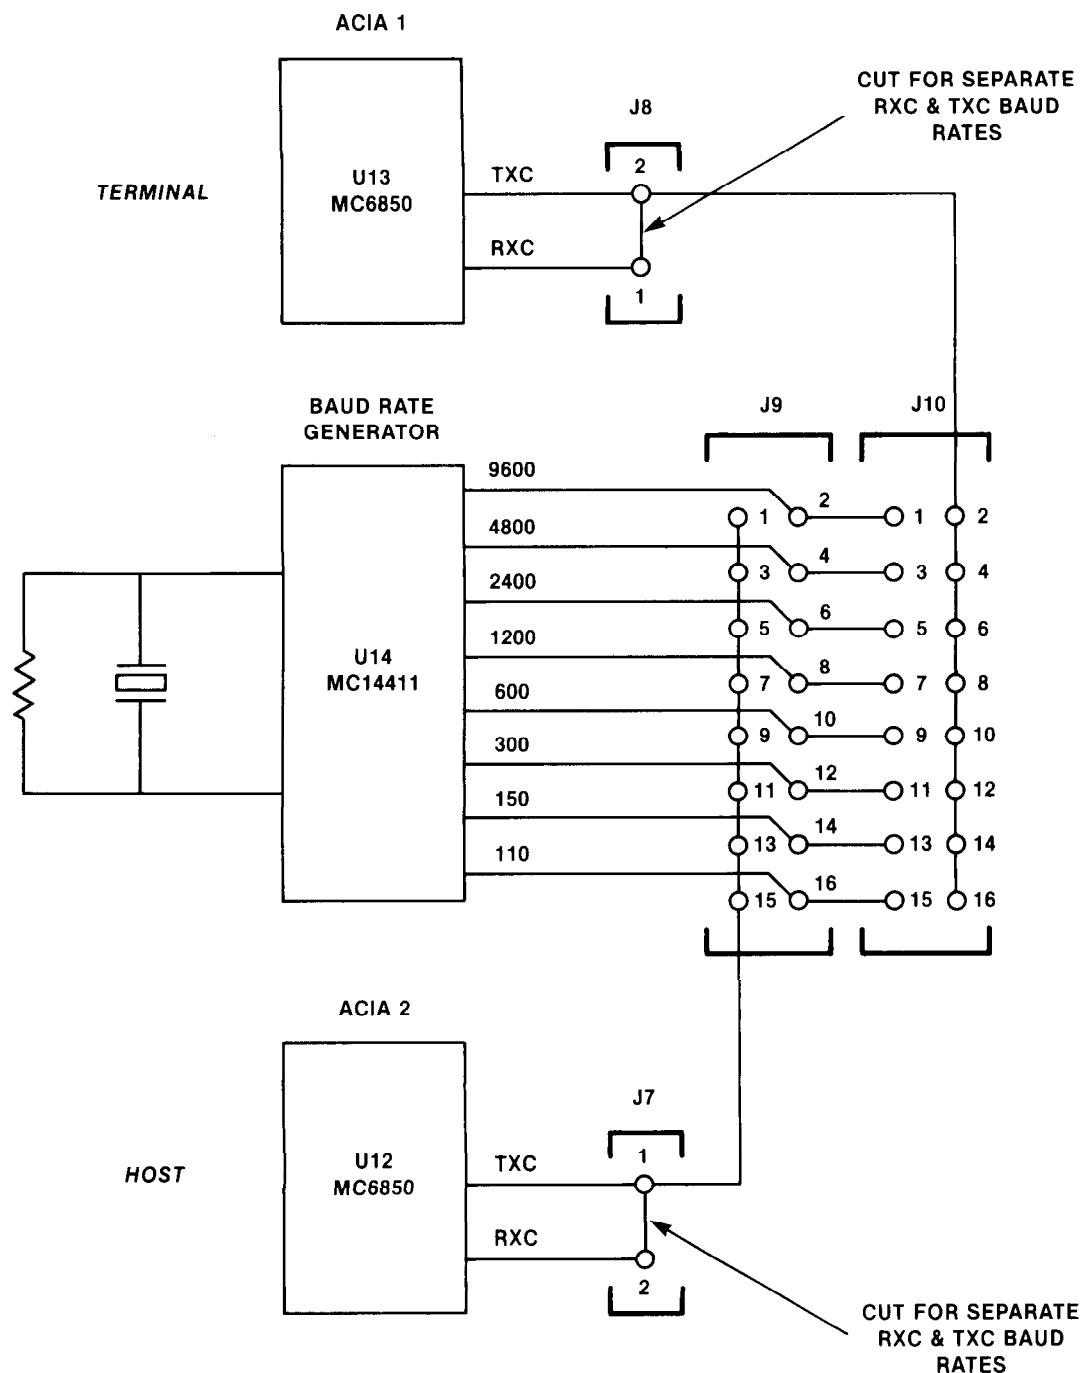

FIGURE 2-4. Interconnection Diagram for Baud Rate Selection
2.2.4.1 Normal Operation – Transmitting and Receiving at the Same Baud Rate. Normally, the terminal transmits and receives at the same baud rate. Although the terminal Port 1 can be configured to transmit and receive at different rates, the board as supplied uses a single common baud rate for the port. The host interface Port 2 has similar attributes. The interconnection circuit is shown in Figure 2-4.
2.2.4.2 Special Operation - Transmitting and Receiving at Different Baud Rates. The MEX68KECB is wired with the transmit clock (TXC) and Receive clock (RXC) of each ACIA (refer to Figure 2-4) tied together and then jumpered to the selected baud rate. To provide different baud rates, the connection between TXC and RXC must be cut and individual baud rates connected to each. Perform the following steps to select separate transmit and receive baud rates for the terminal:
2.5.2.1 Selecting Host Baud Rate. As with the terminal baud rate, the host serial port is wired to transmit and receive at the same baud rate. The desired baud rate is selected via a plastic cap jumper positioned on header J9, as shown in Figure 2-12. Also reference Figure 2-4 for the interconnection diagram and Table 2-1 for the selected baud rate.
Again similar to the terminal port, to provide different baud rates, the connection between TXC and RXC for ACIA2 must be cut (reference Figure 2-4) and individual baud rates connected to each. Perform the following steps to select separate transmit and receive baud rates for the host port: